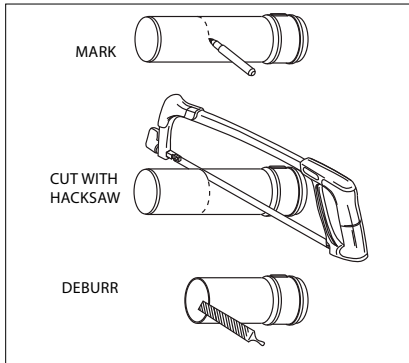

Figure 6
Refer to the appliance manufacturer's installation instructions for requirements of condensate drainage. Slope system for drainage. (Fig.6)
- PolyPro vent pipe lengths may be cut to length. **(Fig.6)**